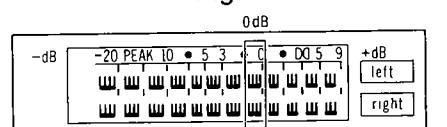

Fig. 17
- At this time, check that 0dB indicator is lighted halfway (intermediate brightness between full brightness and light-out; See fig. 17).